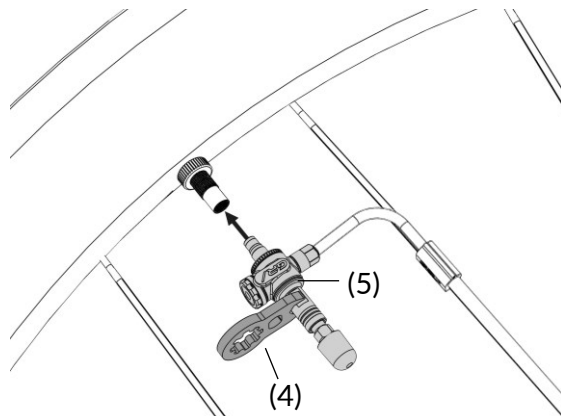

Figure 19: Install GRAVAA valve adapter + valve cap
4. Place the GRAVAA valve adapter (5) on the valve stem and place the GRAVAA valve tool (4) onto the GRAVAA valve adapter as shown in Figure 19.